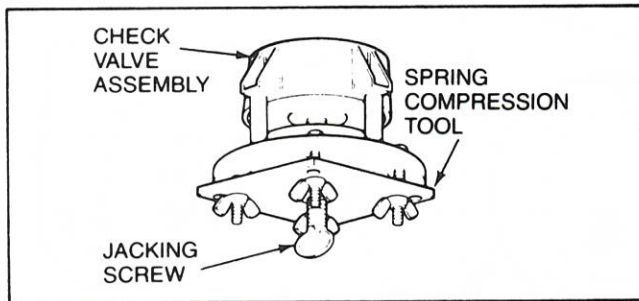

Figure 11. CLEANING 1 1/4", 1 1/2" AND 2" CHECK VALVE
2. Attach the spring compression tool (see Fig. 11) with 4 machine screws